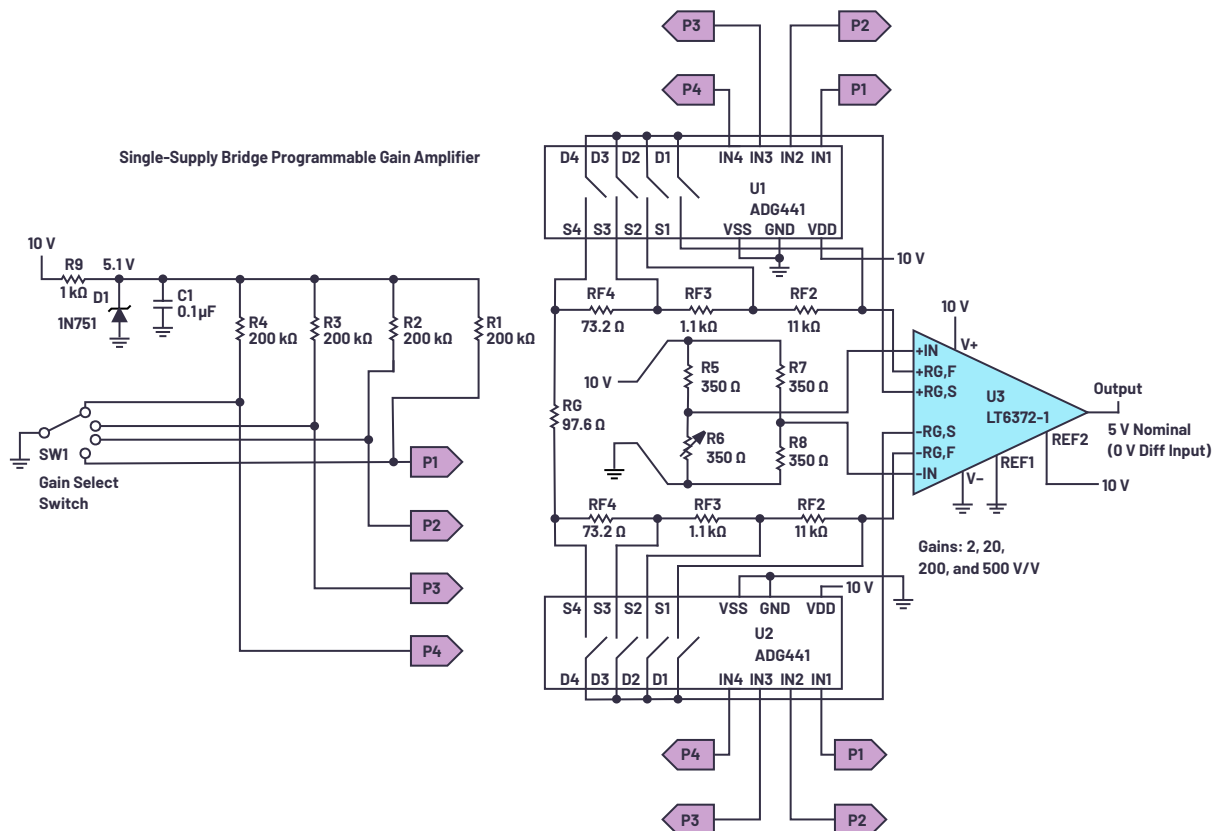

Figure 3. LT6372-1 PGIA bridge interface with four gain settings.
The LT6372-1 can alleviate these concerns when configured as a PGIA, shown in Figure 3, because of how the RG,F and RG,S pins are separately pinned out. In this schematic, the signal from a Wheatstone bridge, consisting of R5 to R8, is amplified with four possible gain values selectable by the user depending on which SW1 switch position is selected. The LT6372 family pinout allows one to create a PGIA that takes advantage of varying the ratio of  $R_F/R_G$  to get the desired gain values.
Figure 3 shows the complete PGIA configuration, including the switches required, which can accommodate an arbitrarily large gain range. Four possible gain values are included here, but it is possible to increase that number by adding more switches to the design. As noted earlier, the feature of allowing access to the RG,F and RG,S pins enables one to increase RF for large gains, and to reduce RG for low gains to create a versatile PGIA. For purposes of gain computation, one can consider the feedback resistor to be the internal 12.1 kΩ trimmed resistance plus other resistances in series with RG,F on its way to reach the RG,S terminal. Conversely, the gain setting resistor is the total resistance seen between +RG,S and -RG,S. This is summarized as:
The individual resistors in the gain network can be calculated sequentially using the formula given in Equation 1. The equation determines the resistors as labeled in Figure 3, where Case 2 from Table 1 (gains 2, 20, 200, and 500 V/V) is used as a worked-out example. The feedback resistors and the gain setting resistors are interactive; thus, the formula must be a series where the present term is dependent on the preceding term(s). The formula is given by:
- Before making any calculations, it is advised to draw a resistor network similar to the network in Figure 3. The network will have  $(2 \times M) - 1$  resistors, where M = number of gains. For this example, M = 4 and, therefore, the resistor string will have seven resistors. Equation 1 needs to be evaluated for  $i = 1 \rightarrow (M - 1)$ .